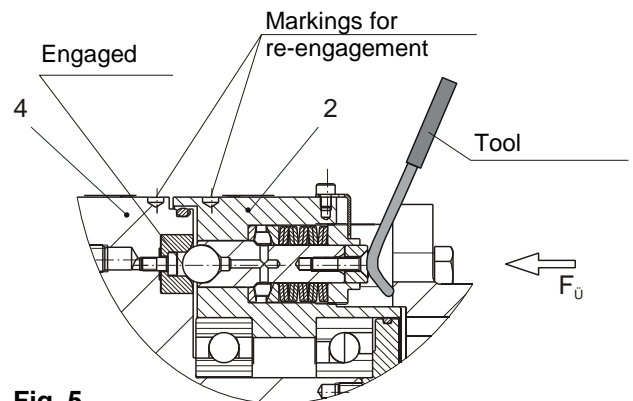

Fig. 5
Re-engagement (Fig. 5)
The marking bores on the outer diameters of the element flange (2) and the pressure flange (4) must align (Fig. 5).
- Manually, using a suitable tool (Fig. 5).